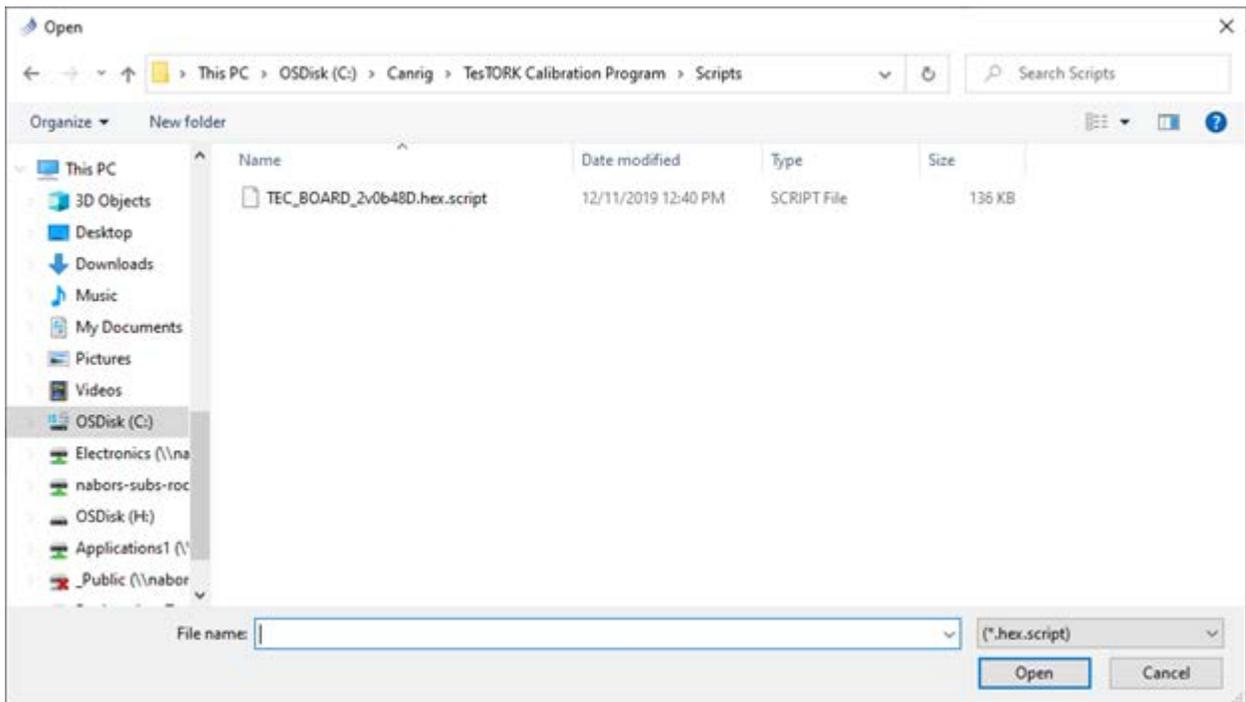

Figure 5: File Open dialog
- To select the firmware update script, under **File**, select the **Open Script** button. The file **Open** dialog will appear (Figure 5 on page 5).